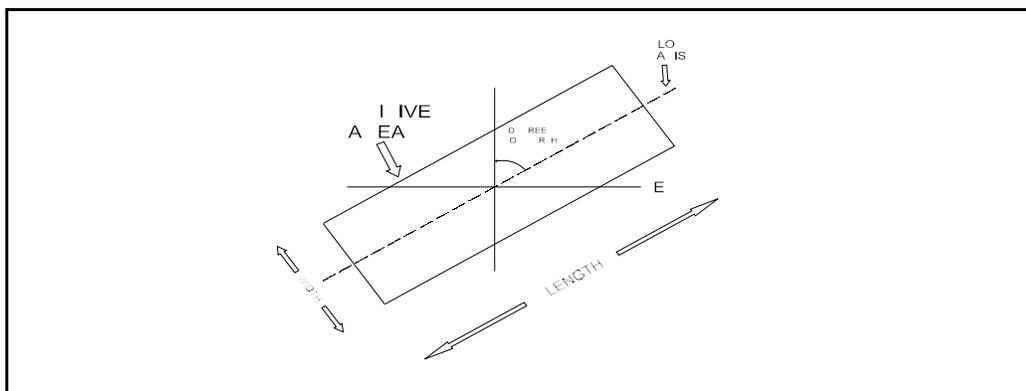

Figure 1. Orientation of a Fugitive Area
4. **Regulated Entity Reference Number (RN):** The number that Central Registry assigns to a location where a TCEQ-regulated activity occurs.
9. **Orientation:** Specify the fugitive area's long axis direction, measured in degrees of rotation from true north. The orientation may be measured in degrees East of North or degrees West of North. In Figure 1 the orientation could be described as 60 degrees East of North or 120 degrees West of North.